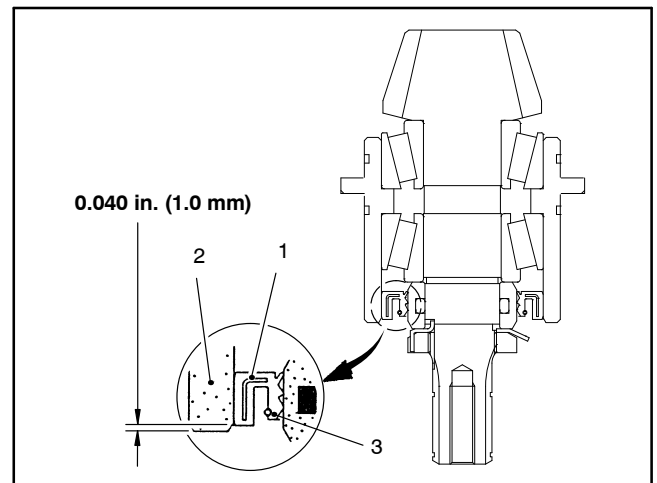

Figure 29
3. Coat a new oil seal with grease and install as shown (Fig. 29). The seal should be installed with the garter spring towards the hydraulic motor location.